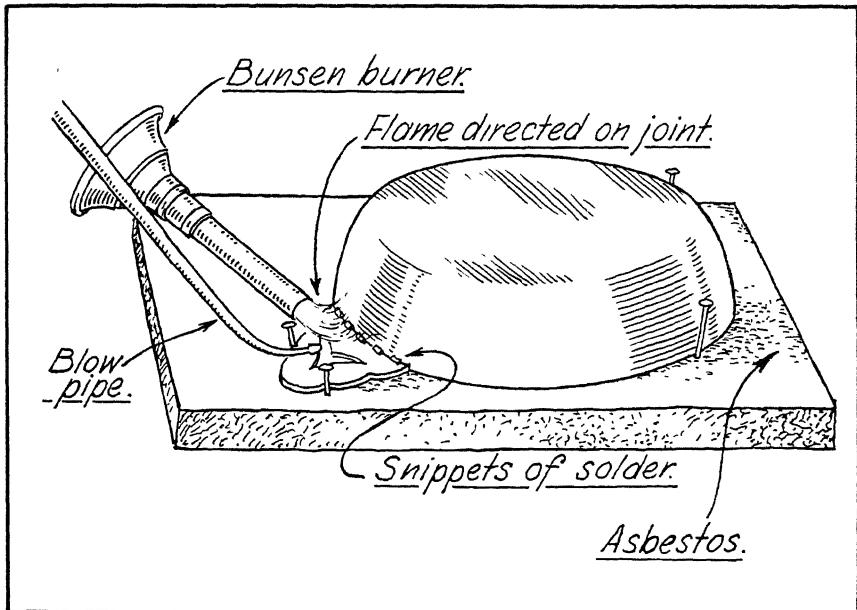

Fig. 22. Soldering
*in the pewter.* The project should be set upon a piece of asbestos while soldering (Fig. 22).
6. Turn the tray upside down on a flat board covered with asbestos. The handles may be held in place with brads (see Fig. 22). Apply the soldering flux (10 drops of hydrochloric acid added to 1 oz. of glycerin).